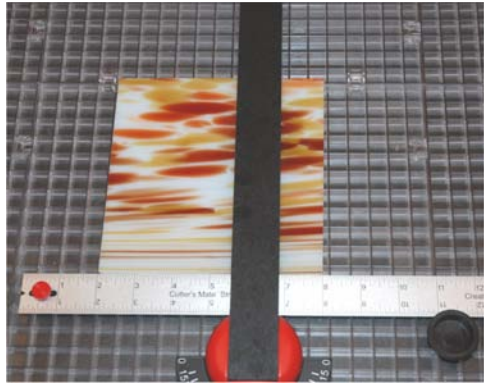

figure 1
1. Place the glass on the ruler. Any number can be your point of origin. Let's use the **number 7** on the ruler as our point of origin. **figure 1**